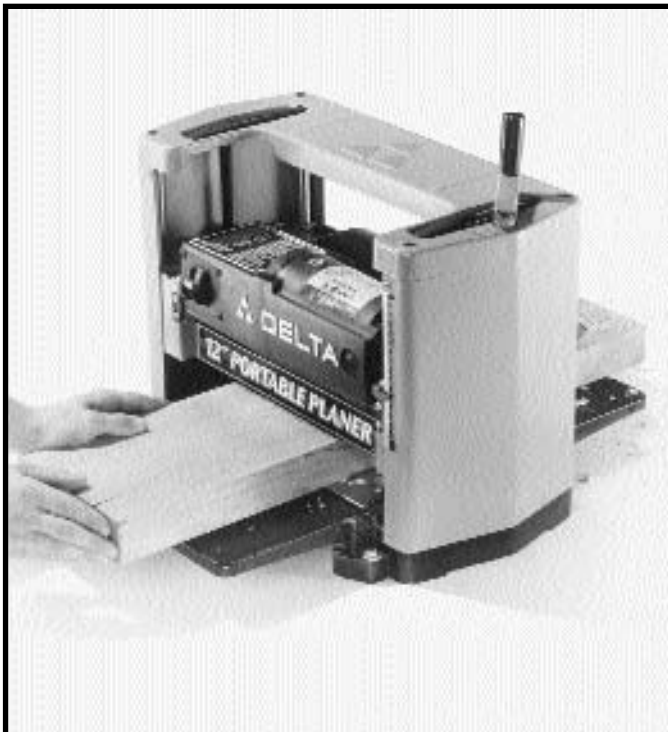

Fig. 24
3. Plane to Thickness – Place the side you just surfaced in **STEP 2** face down and feed the board through the Planer, as shown in Figs. 24 and 25. Plane both sides of the board until you are satisfied with the thickness, making thin cuts with each pass. If during the planing operation you notice the board twisting, warping or bowing, repeat **STEP 2** and true up one face.